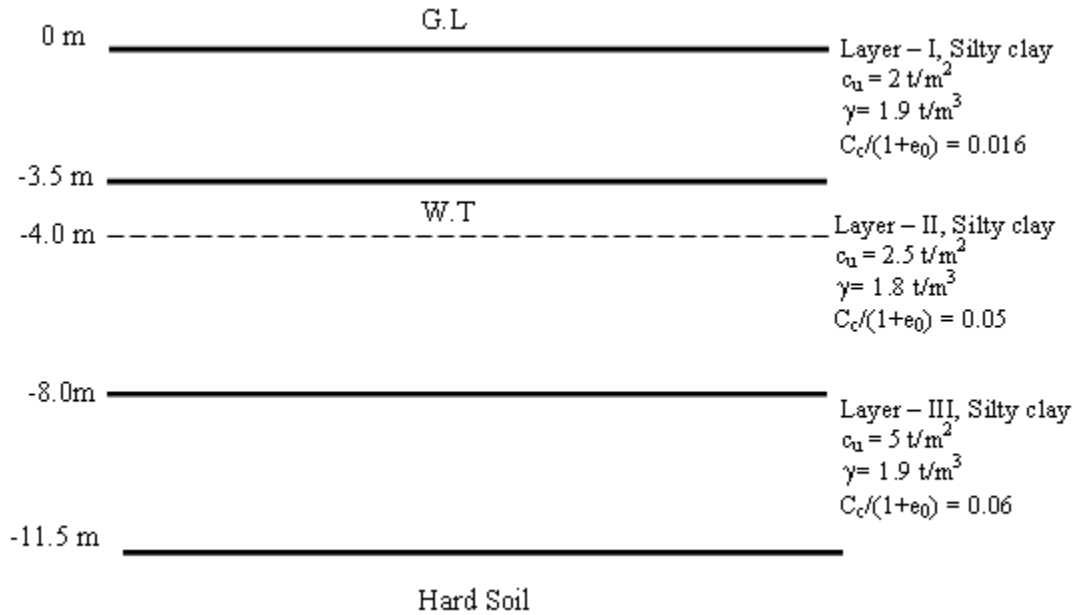

Fig.4
15. Design an isolated rectangular footing of dimension 4m x 5m. The gross pressure acting at the base of the footing is 150 kN/m². Choose the depth of foundation such that the factor of safety is exactly 3 against shear failure. Also check against the permissible settlement (75mm) to ensure that the design is safe from the settlement criterion too. If the design is not safe against settlement criterion, then choose the proper dimension and depth to ensure that design is safe against both the criterions. Take pore water correction factor as 0.7. Use Skempton's bearing capacity equation for clay soil. Take $E = 600 c_u$ and $\mu = 0.5$. The soil profile is shown in Fig.4.